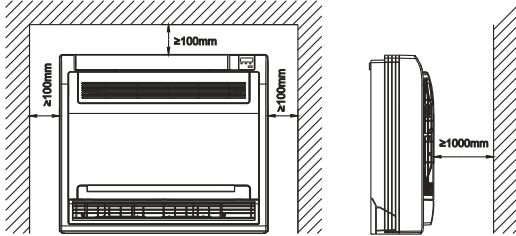
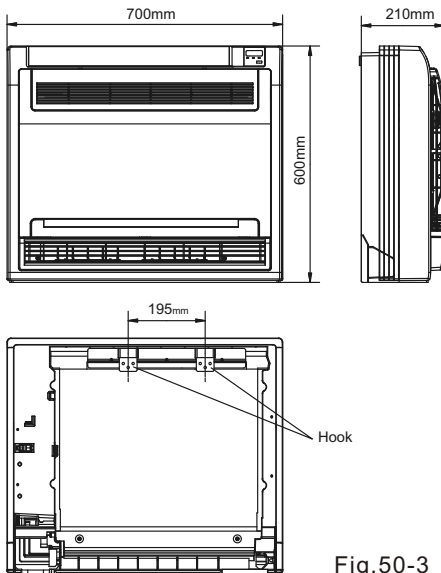

Fig.50-2
Fig.50-3
- There is enough room for installation and maintenance.(Refer to Fig.50-2 & Fig.50-3)